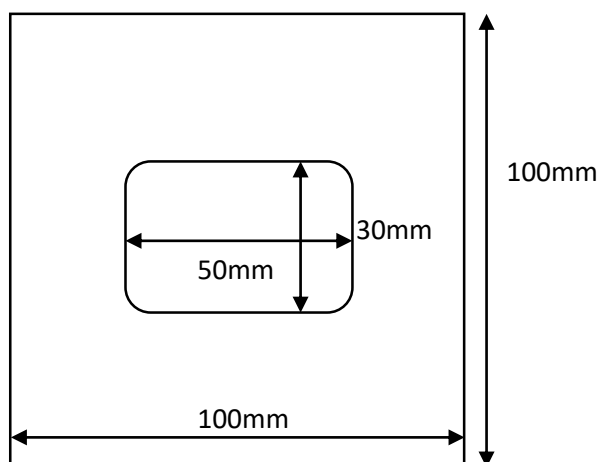

Fig 5.8 Pocket milling operation
- Part Program for pocket milling of workpiece shown in fig 5.8 and 5.9 represent the finished workpiece. (All dimensions are in mm)